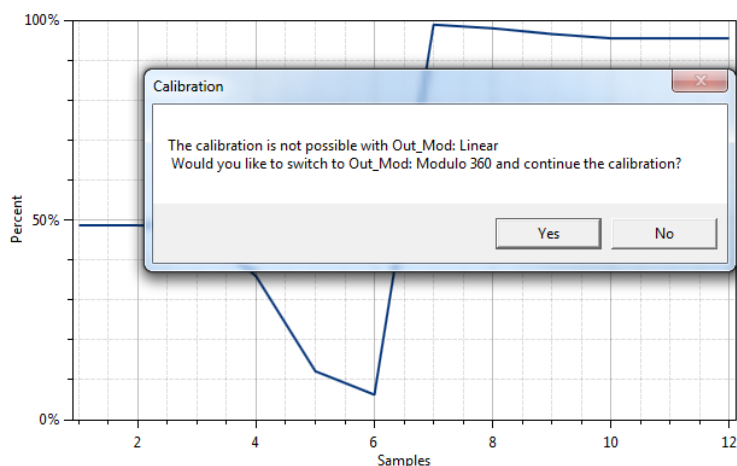
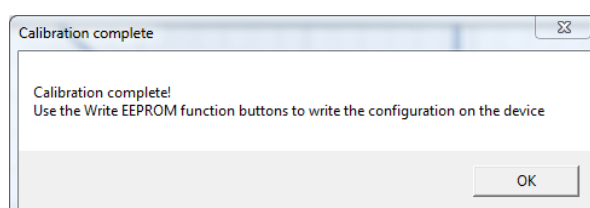

Figure 31. Request for Changing the Out\_Mod Setting
Figure 32. Successful Calibration Message
3. Based on the acquired data, the GUI will attempt to calculate the best values for the *Slope*, *Offset*, and *Clamps* registers. If the calibration is not possible with the currently selected “Out MOD” setting, the GUI will ask the user to change to the other setting (see Figure 31). The calculated values will be prepared to be written to the memory, and the user will be directed to use the “Write EEPROM” button in the “I/O FUNCTIONS” section to write the new coefficients to the memory of the device. See Figure 32.